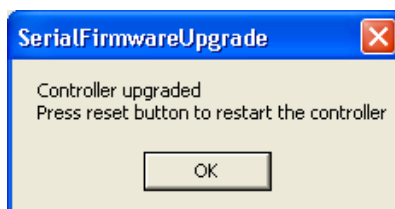

Figure 56. The Serial Firmware Upgrade window
- Select Firmware version1 from the drop-down menu and click **Upgrade**. File transmission starts to the PLC. A confirmation window opens when the PLC is upgraded, see Figure 56.